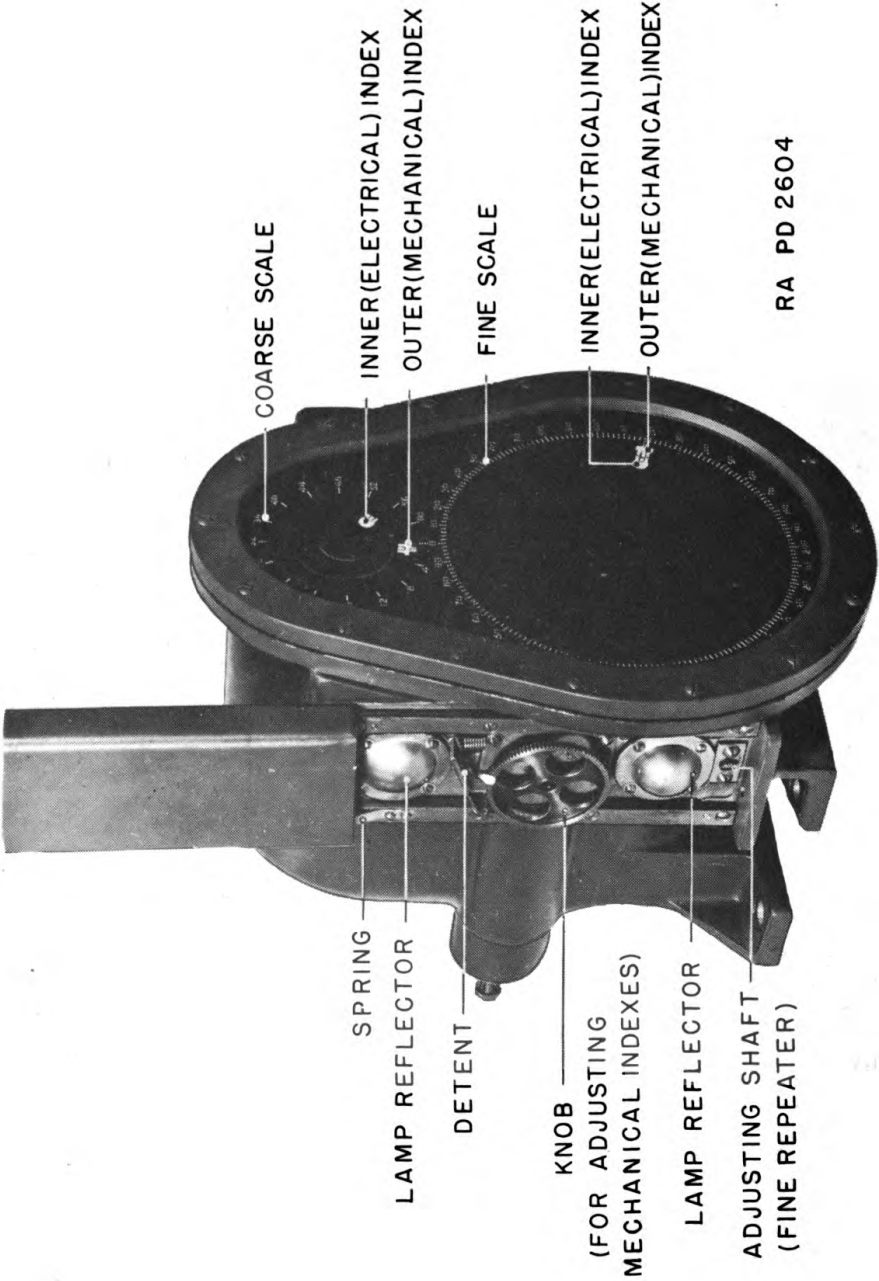

Figure 15 — Azimuth and Elevation Indicator, M4—Left-hand Cover Raised
g. Adjustment of the mechanical drive so that the coarse and fine outer indexes indicate the actual azimuth or elevation of the gun is accomplished by a differential gear mechanism (fig. 41). Any such adjustment is introduced by means of the mechanical index adjusting knob (fig. 15) which has a toothed edge engaged by the detent to prevent movement when once adjusted. The knob is accessible when the cover is raised. In the case of the azimuth indicator this adjustment will be required each time the battery is emplaced. The elevation indicator ordinarily requires such adjustment only once, when initially installed.